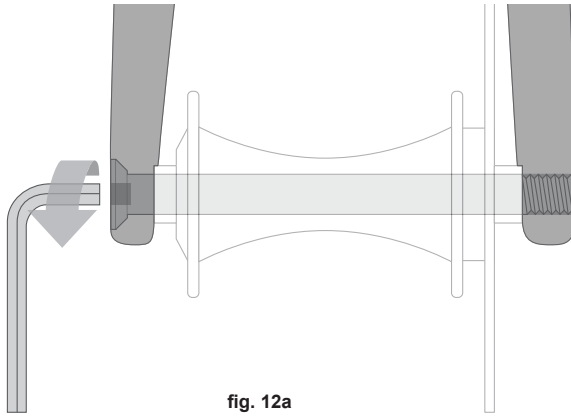
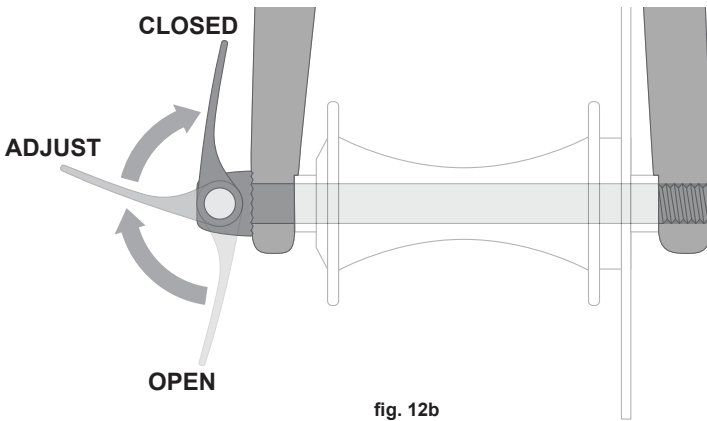

fig. 12a
fig. 12b
a. Adjusting the thru axle mechanism (fig. 12a & 12b)
The thru axle is inserted through the unthreaded hole in the frame or fork's dropout, through the wheel hub, and is threaded directly into the opposing dropout by tightening the thru axle. Common installation methods may use an Allen hex key (fig. 12a) or a cam lever (fig. 12b). Please refer to the manufacturer's instructions for specific information about your thru axle's operation, including correct torque specifications or lever adjustment information.
(4) If your bike has a thru-axle front wheel mounting system (figs. 12a & 12b), loosen and remove the thru axle according to the manufacturer's instructions, then remove the front wheel.
- (c) With a thru axle system, tighten the thru axle (figs. 12a & 12b) according to the manufacturer's instructions.
(5) If your bike has a thru-axle rear wheel mounting system (figs. 12a & 12b), loosen and remove the thru axle according to the manufacturer's instructions.
(6) Push the rear wheel forward far enough to be able to remove the chain/belt from the rear sprocket, then lift the rear wheel off the ground a few inches and remove it from the rear dropouts.
(c) With a thru axle system, tighten the thru axle (figs. 12a & 12b) according to the manufacturer's instructions.